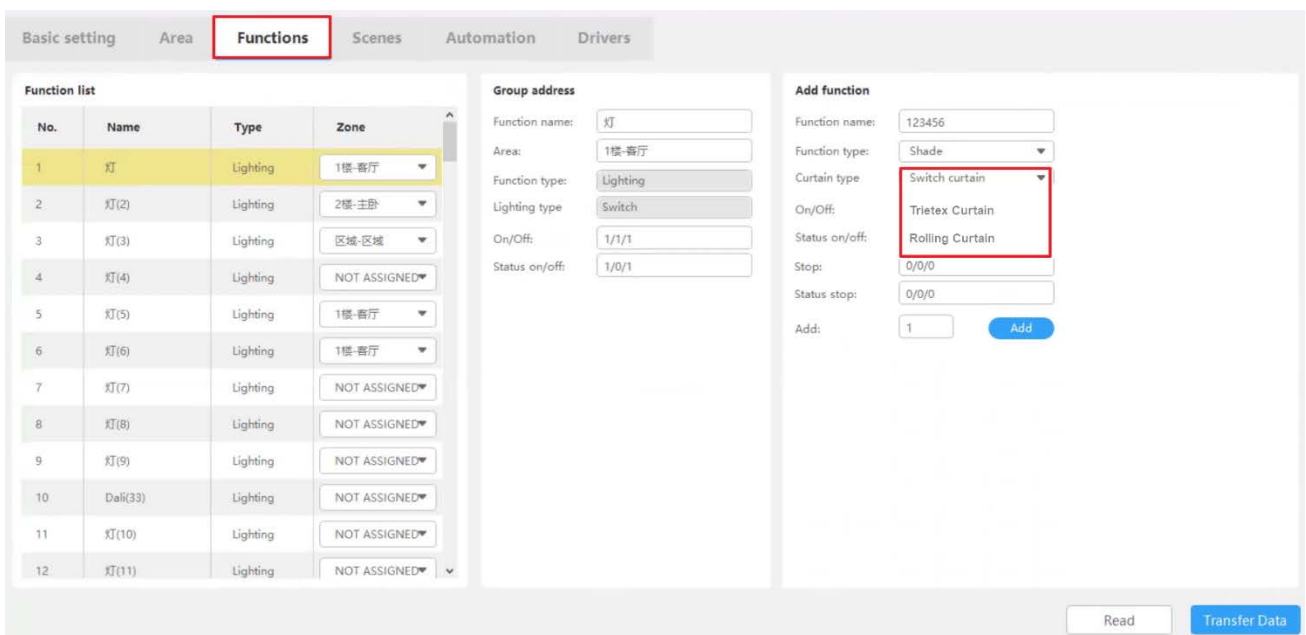

Figure 5-3 Shade
- Shade: As shown in Figure 5-3, you can select curtain type, including switch curtain, retractable curtain, rolling curtain.